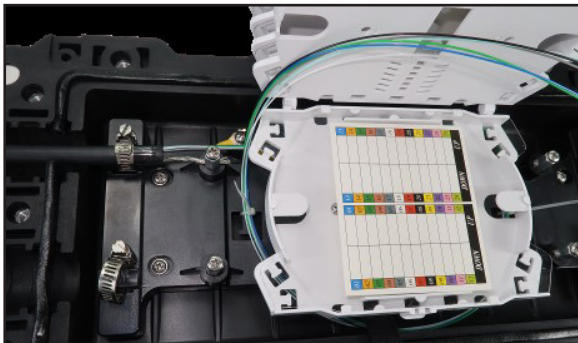

Figure 1-10: Store the slack cable
- 9 Store the slack cable in the bottom of the case (Figure 1-10).